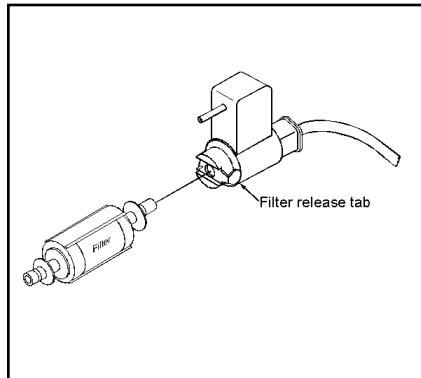

Fig. 2
6.1 Insert the larger end of the filter cartridge into the fitting at the end of the flexible air hose. Push the filter gently until it is firmly seated and the metal Filter Release Tab pops out, locking the filter into place. See Figure 2.